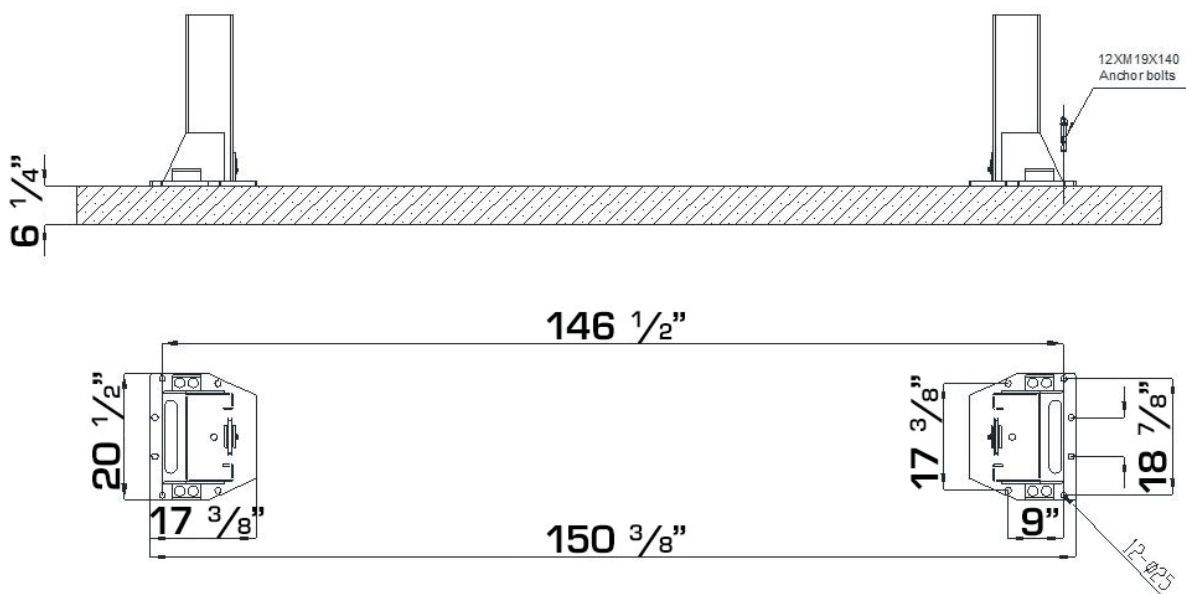

Figure 8 – Floor Plan
- Now locate the lift according to the floor plan the figure 8, use a carpenter's chalk line to layout a grid for the column locations